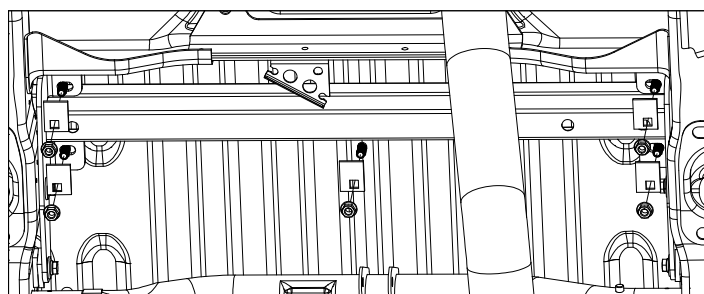

Figure B5: View looking up at bed from underneath truck.
- 4. Fasten the forward mounting rail.** Install an offset square hole washer and 1/2" flange nut on each of the carriage bolts passing down through the bed as shown in Figure B5. Do not fully tighten at this time.